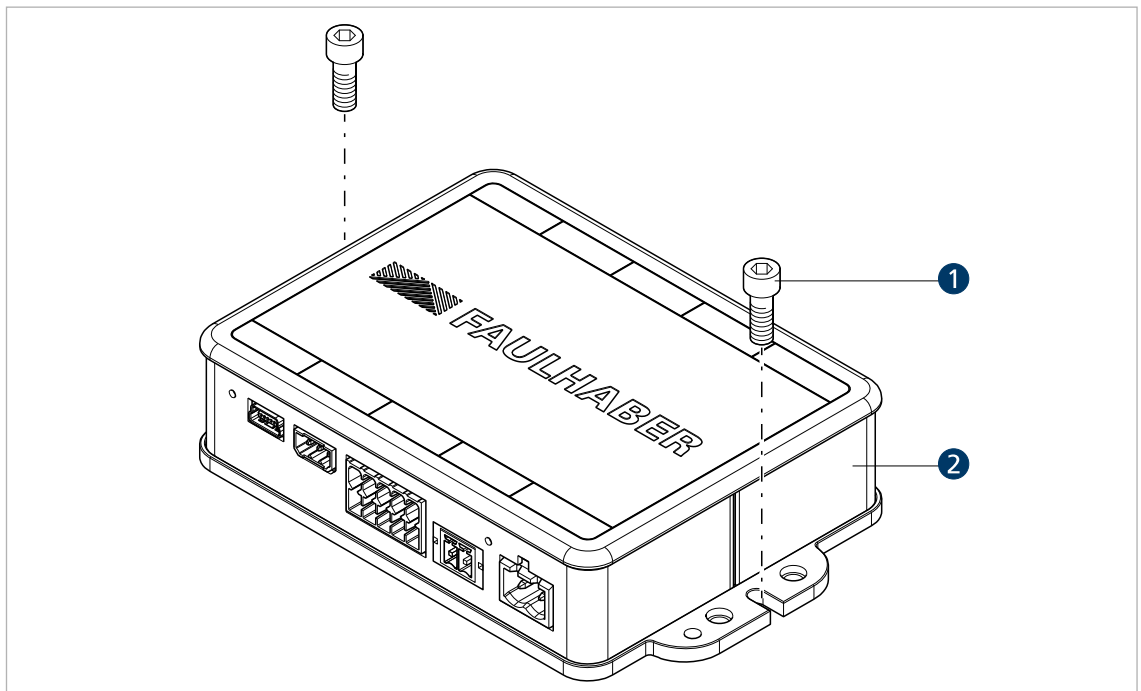

Fig. 7: Attachment via the side plates
- ▶ Attach the Motion Controller (2) to the mounting plate with screws (1) as described in Fig. 7.